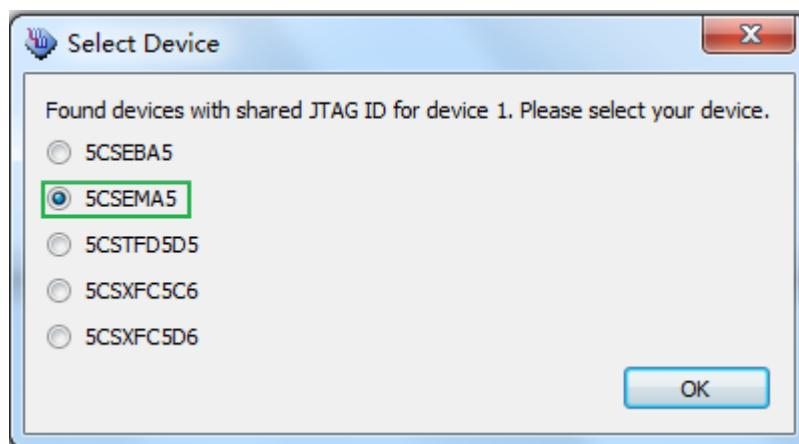

Figure 3-8 Select 5CSEMA5 device
3. Select detected device associated with the board, as circled in **Figure 3-8**.